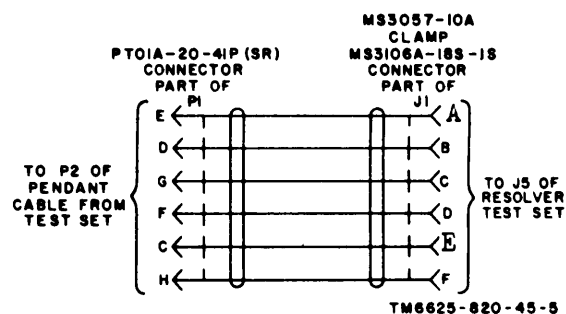

Figure 4-1. Fabricated cable to resolver test set, construction details.
ASM-110. Refer to figures 4-1, 4-1.1, and 4-1.2 and construct the cables as described below.
- (1) Solder six 2-foot lengths of # 22 AWG stranded, insulated wire to pins C, D, E, F, G, and H of each male connector P1.
- (2) Label the loose ends of the six wires with the pin number to which each wire is connected.
- (3) Slip a 2-inch length of spaghetti over the loose ends of the six wires.
- (4) Place clamp MS3057-10A over the end of the spaghetti on the resolver test set cable.
- (5) Connect the loose ends of the six wires to the pins of the J1 female connectors as shown in figures 4-1 and 4-1.1.